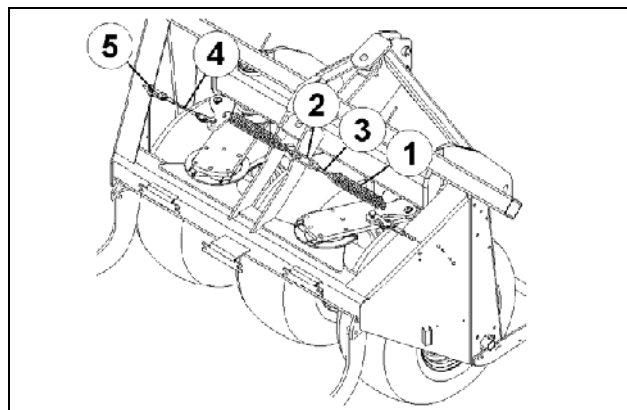

Fig. 123
Two strong springs (Fig. 123/1) prevent the seed hopper from swinging when being raised.
After a repair hook both springs in the turnbuckle (Fig. 123/2) and tension the spring with 10 turns of the turnbuckle. Secure the turnbuckle by using a counter nut (Fig. 123/3).
**When the steering is pulled to the side the springs are tensioned by two ropes (Fig. 123/4). The U-bolts (Fig. 123/5) with which the ropes are tensioned must not be adjusted.**